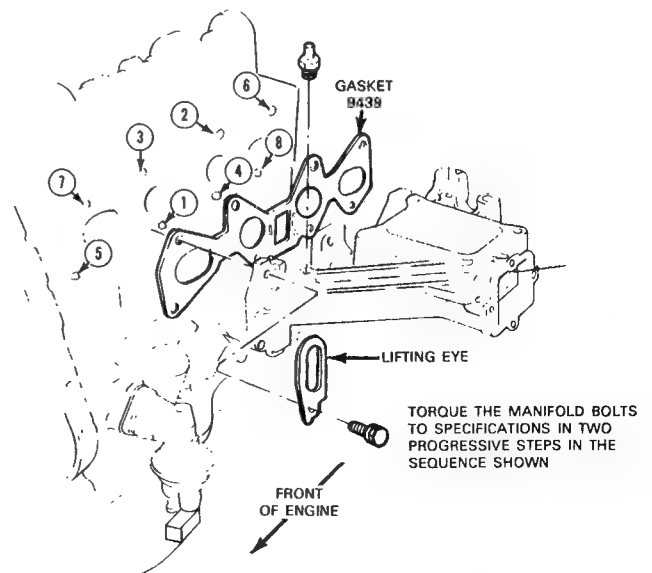

FIG. 42 Intake Manifold Installation
1. Remove 8 bolts and remove the manifold (Fig. 42).